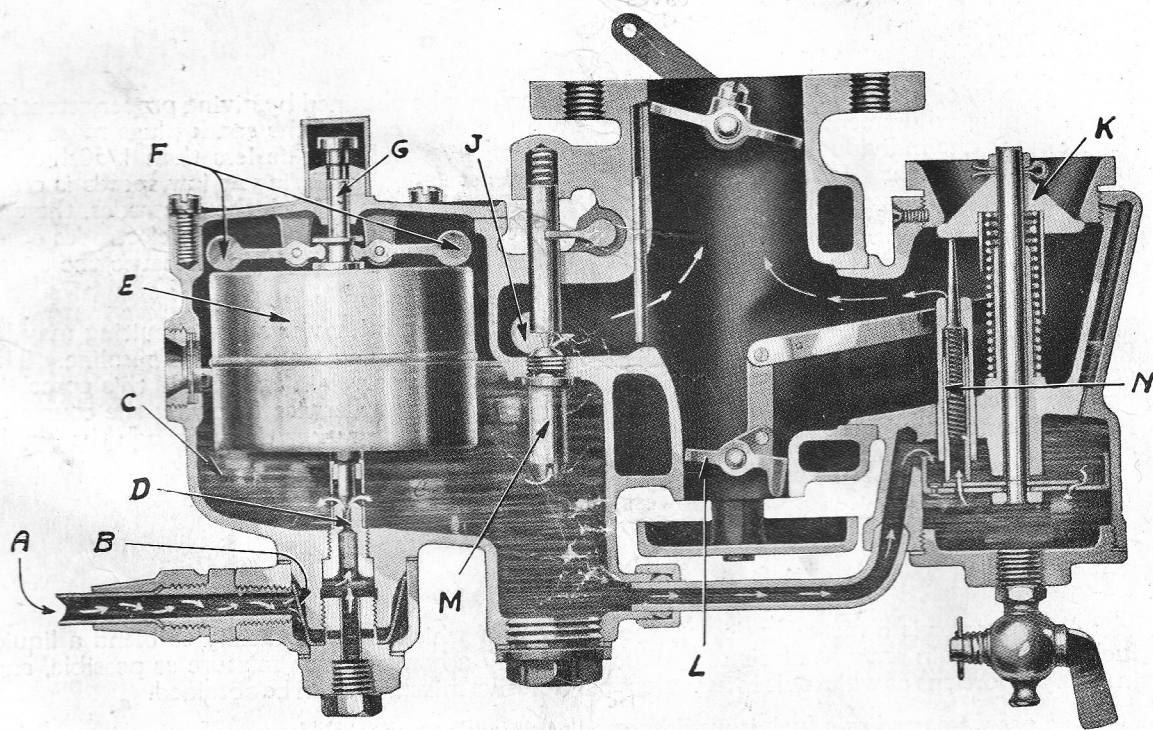

Figure No. 15
The accompanying illustration (Figure No. 15), is a sectional view of the Rayfield carburetor, and indicates by arrows the travel of the gas through the instrument. Gasoline enters the carburetor through the gas line (A) passing through the strainer (B) needle (D) and into the float chamber (C). The float (E) raises with the inflow of gas, which automatically raises the two fuel lines (F) and causes needle (G) to seat when the proper level is reached, thereby stopping the flow of fuel. The motor suction again exhausts the gas from the float chamber. Fuel is supplied to the motor.